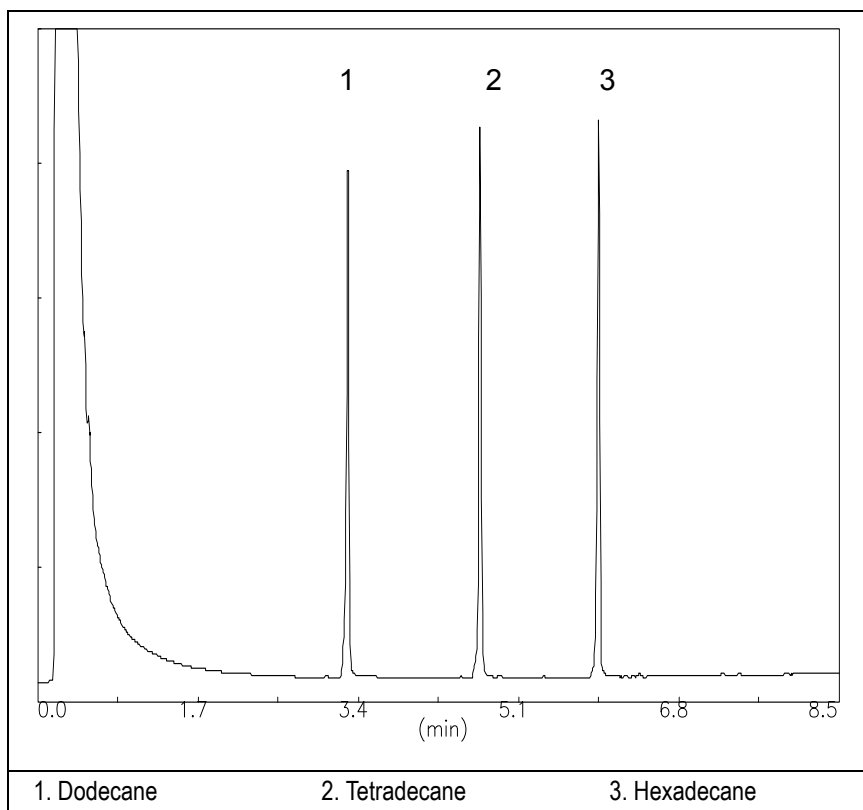

Figure 5-1. FID-PPKD Injection
12. Inject the test mixture and press **START** on the GC to begin the checkout run. The resulting chromatogram should look like the one shown in *Figure 5.1*